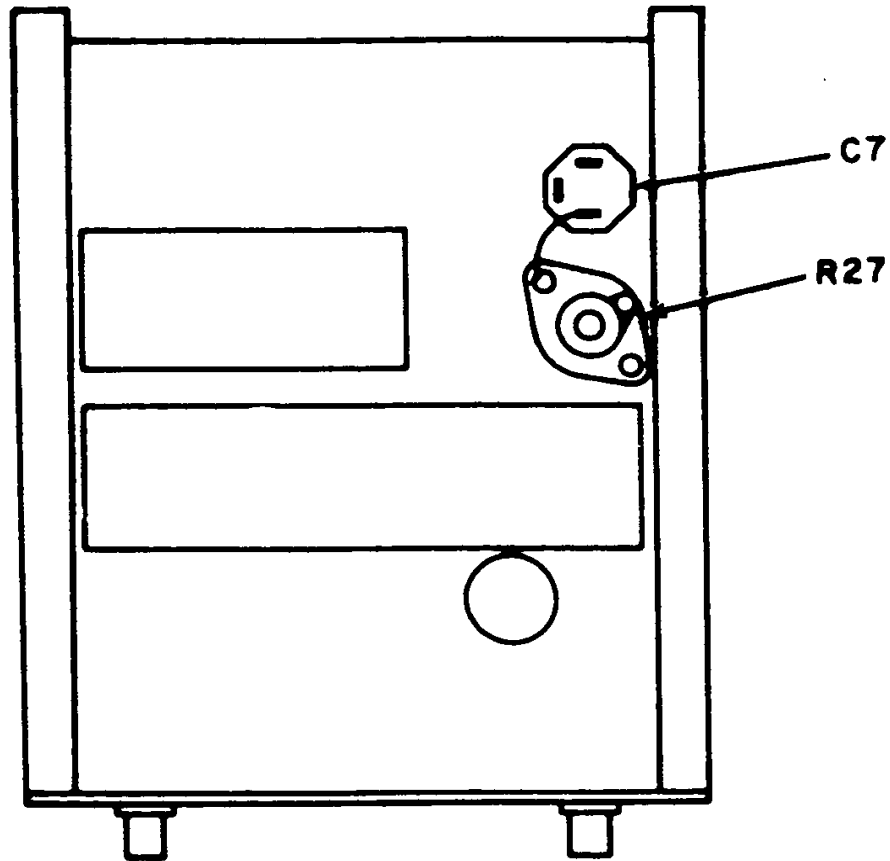

Figure 3. AM-18911U and Models 450A and 450AR.
a. Performance Check. Connect ac/dc voltmeter (A1) to junction of R27 and C7 (fig. 3) and chassis ground, using cable (B8). If ac/dc voltmeter does not indicate between 6.24 and 6.36 Vdc, perform **b** below.
b. Adjustments. Adjust R27 (fig. 3) for a 6.30-V indication on ac/dc voltmeter (R).